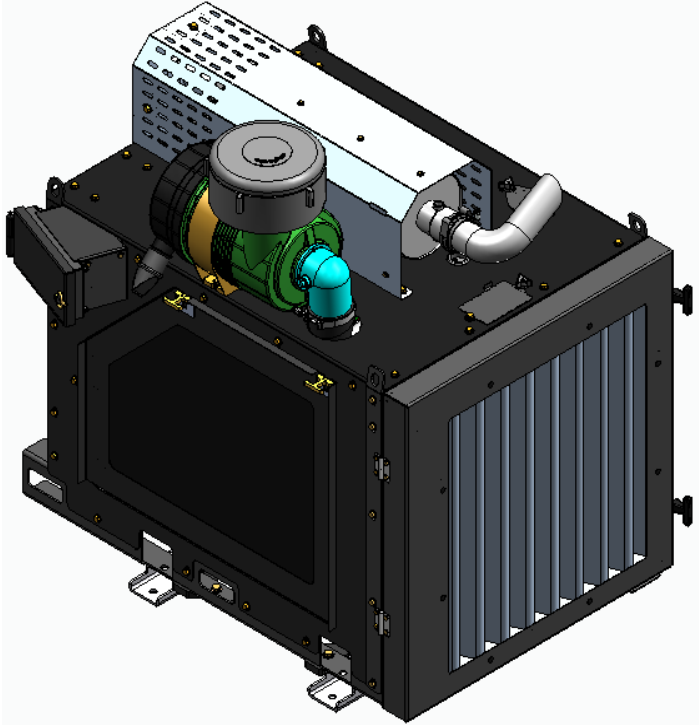

Figure 8
7) See Figure 8. Install new debris screen by sliding it onto hinges and fastening with rubber latches.